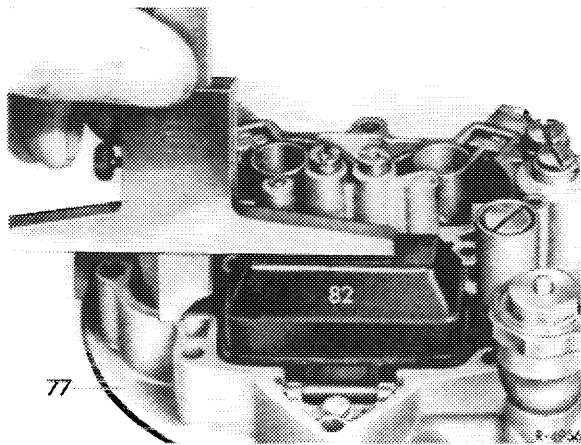

Fig. 07-3/13
12 Check float level. Measure distance between float (82) and top edge of bedplate (77) without seal (Fig. 07-3/13).